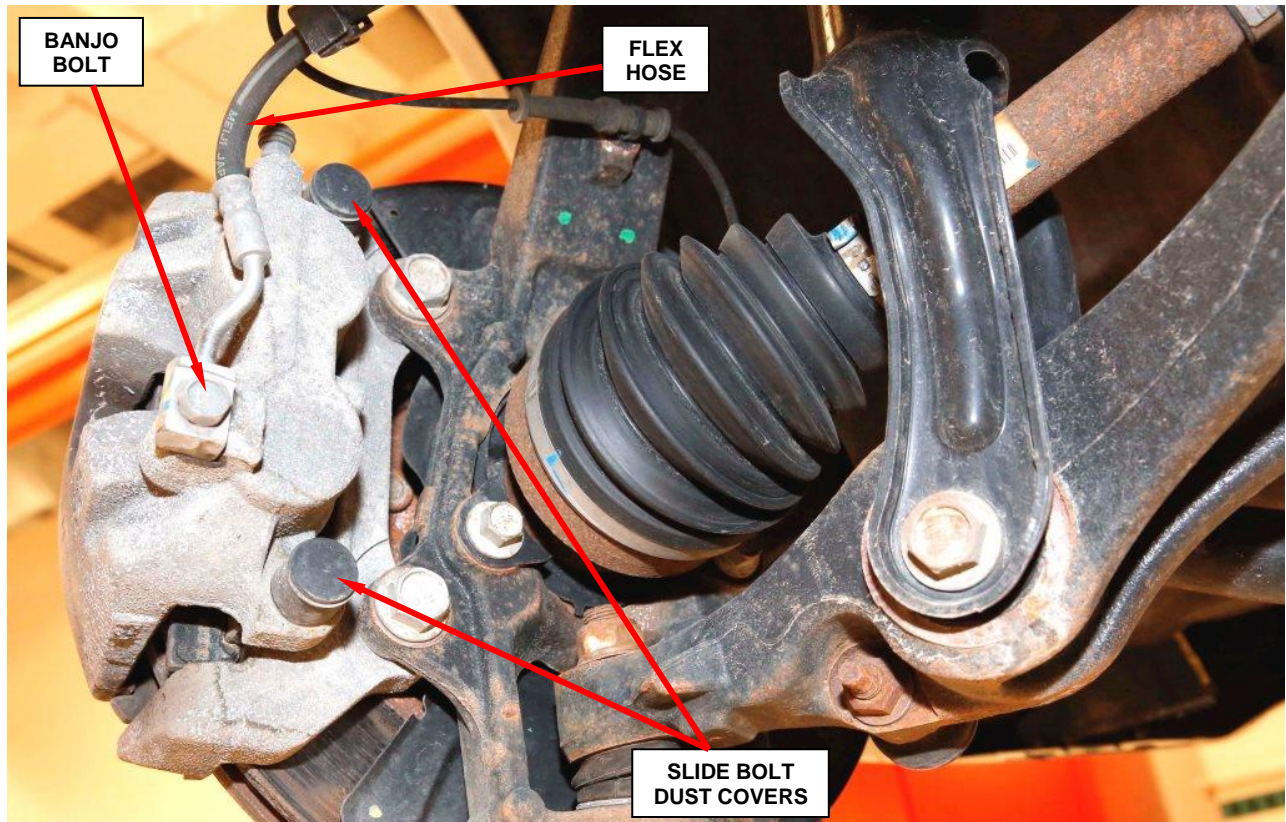

Figure 4 – Brake Caliper Flex Hose Banjo Bolt and Slide Bolt Dust Covers
5. Loosen, but do not remove, the brake flex hose banjo bolt (Figure 4).
6. Remove and save the brake caliper slide bolt dust covers (Figure 4).